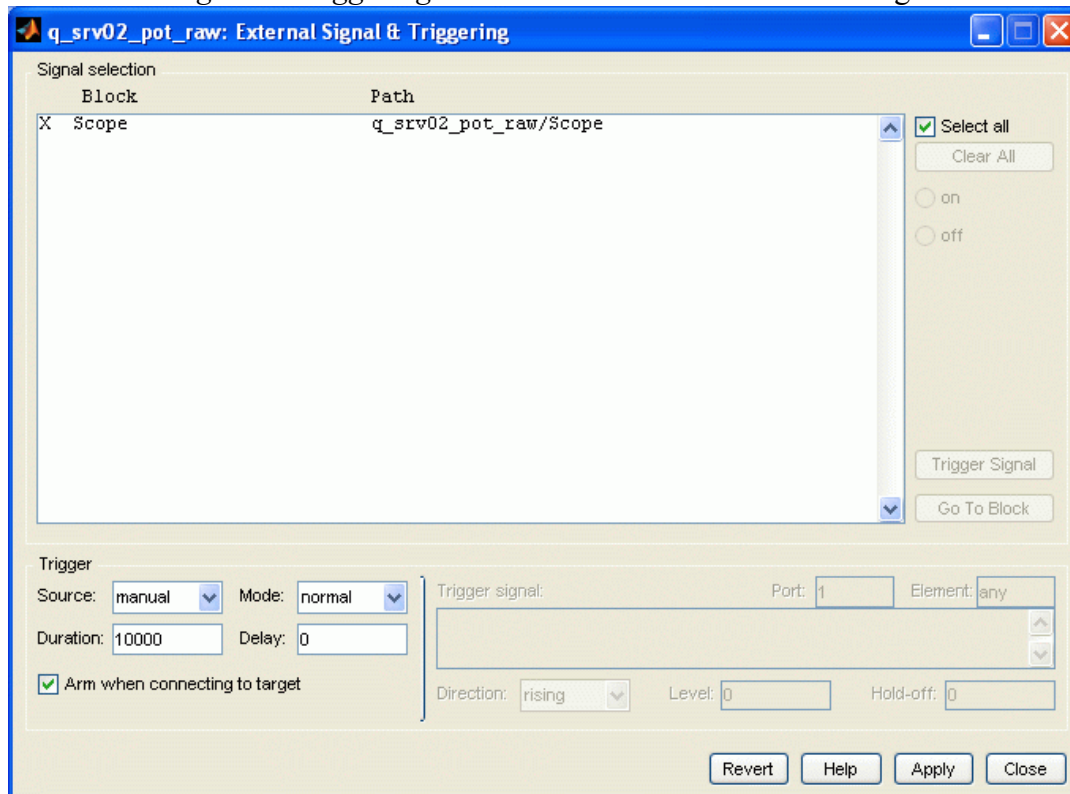

Figure 18: Signal and Triggering window for a Simulink diagram with a single Scope.
2. Click on the *Signal & Triggering* button and the window shown in Figure 18 will load.
3. As shown in Figure 18, ensure the *Arm when connection to target* option is selected so that the scope plots information when the QuaRC controller is running.